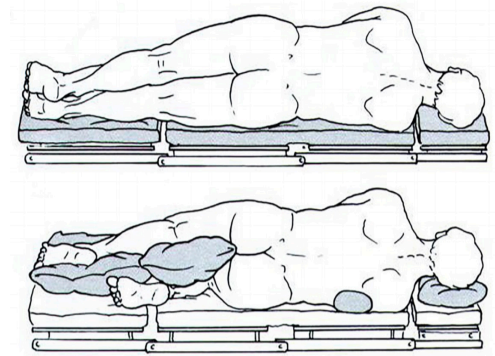

Figure 1
- ▲ Position the patient in the lateral decubitus position (Fig. 1).